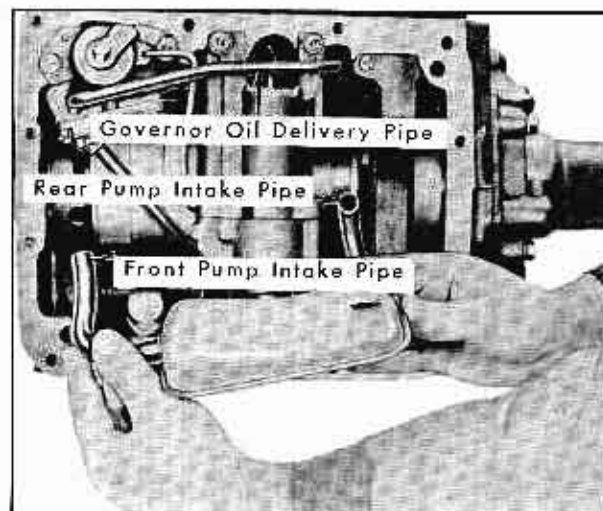

Fig. 14-15 Removing Oil Pan Screen and Intake Pipe
15. To avoid damage to oil pan screen, lift screen and front pump intake pipe as an assembly from the front pump and rear pump intake pipe. Fig. 14-15.